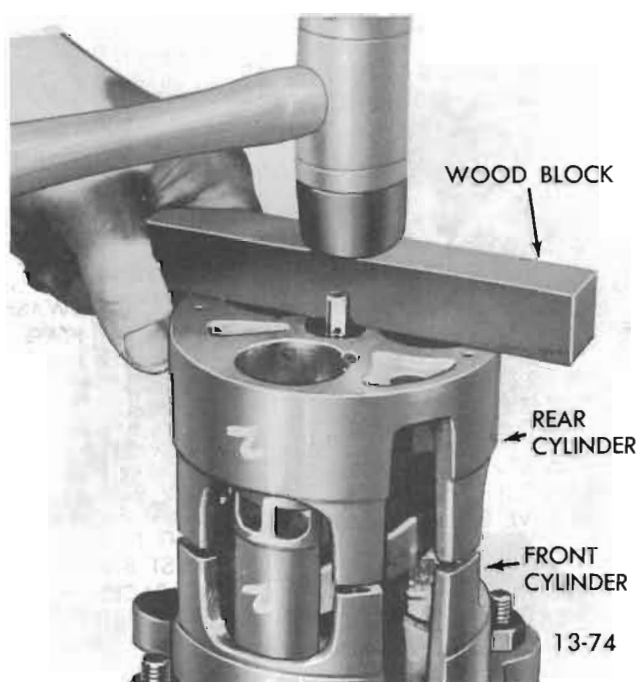

Figure 13-49 Assembling Rear Cylinder Half
9. Reassemble rear cylinder onto front cylinder using wood block and mallet (see Figure 13-49).